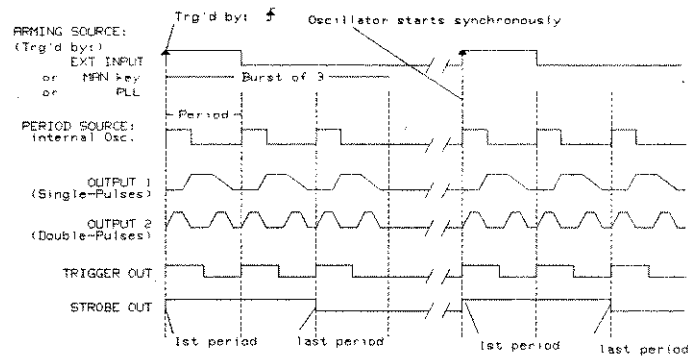

Figure 3-9.
Figure 3-9 does not show the intrinsic fixed delays between the EXT INPUT and the TRIGGER/STROBE OUT signals, and between the TRIGGER OUT and the main OUTPUT 1/2 signals. Refer to Chapter 6 for the typical values of these delays.
- internal Osc (Start of burst synchronized to trigger, see Figure 3-9)
- internal Osc (Start of pattern synchronized to trigger, see Figure 3-9)